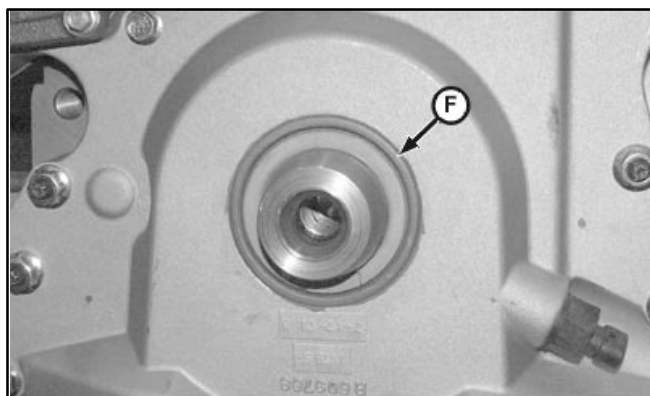

FIGURE 7-33. INSTALLED OIL SEAL
6. Install the washer and nut onto the adapter and tighten the nut until seal (F) is flush with the face of the timing gear cover. See Figure 7-33.